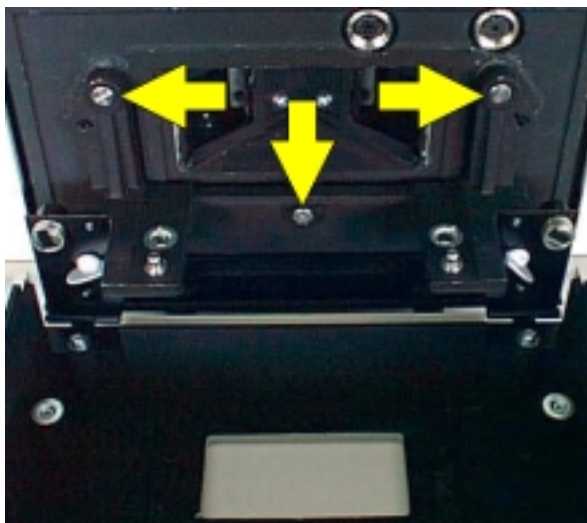

Figure 63 Sampling accessory bracket screws
4. Undo the three screws which attach the sample accessory bracket to the LS-50B, as shown in Figure 63.